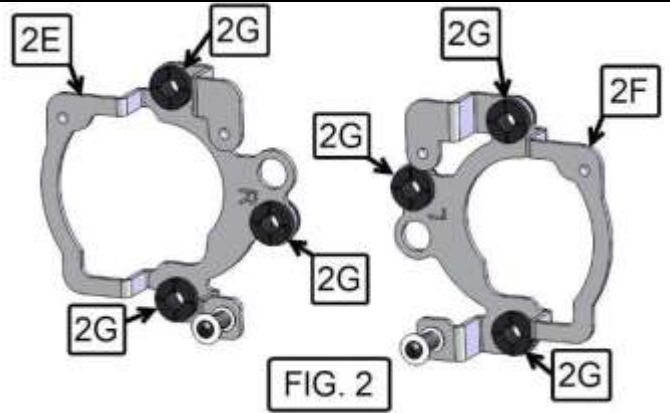

FIG. 2
4. STARTING WITH THE RIGHT LIGHT MOUNT (2E) INSTALL THE THREE LARGE RUBBER GROMMETS IN THE HOLES SHOWN IN FIG. 2. THEN INSTALL THE THREE GROMMETS AS SHOWN IN THE LEFT LIGHT MOUNT (2F) AS SHOWN IN FIG.2.